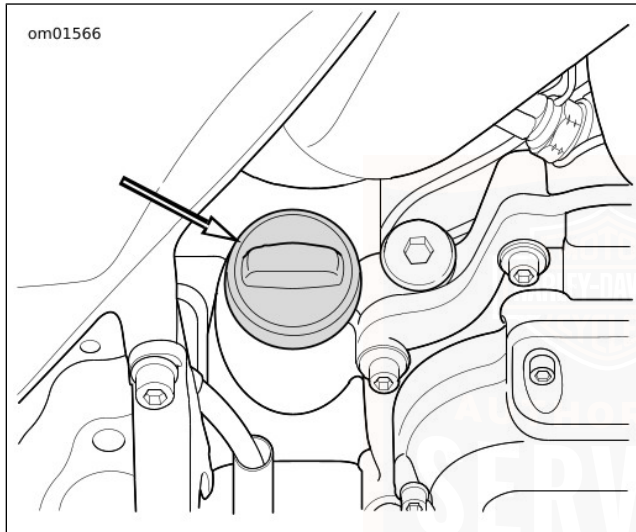

Figure 45. Engine Oil Filler Plug
2. See Figure 45. Remove filler plug/dipstick. Wipe off the dipstick. Insert the dipstick and tighten into the fill spout.
3. See Figure 45. Remove filler plug/dipstick and wipe off the dipstick. Insert the dipstick and tighten into the fill spout.